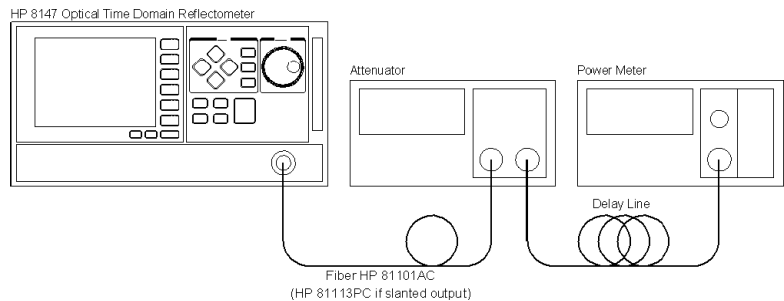

Figure D-15
- 1 Connect the equipment as shown in Figure D-15.